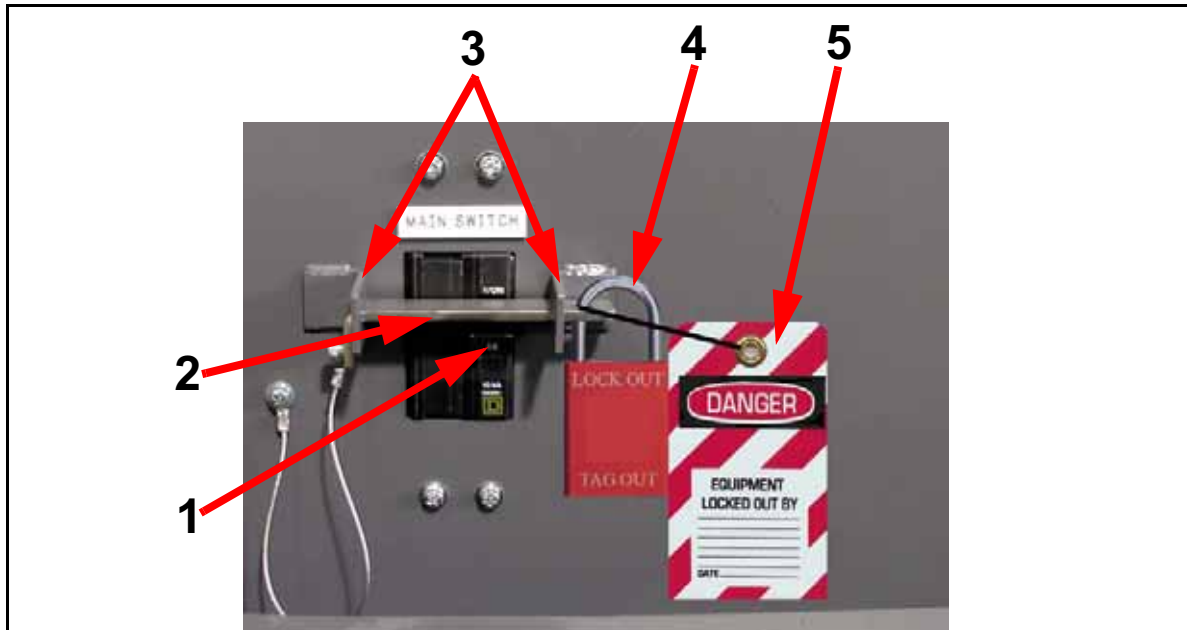

Figure 2-2. Main Disconnect Switch
- 2 Turn the main disconnect switch (1 in Figure 2-2) off.
- 3 Insert bar (2) through brackets (3).
- 4 Place padlock (4) through switch and lock it.
- 5 Place tag (5) on switch that includes the name of the person who locked machine out.